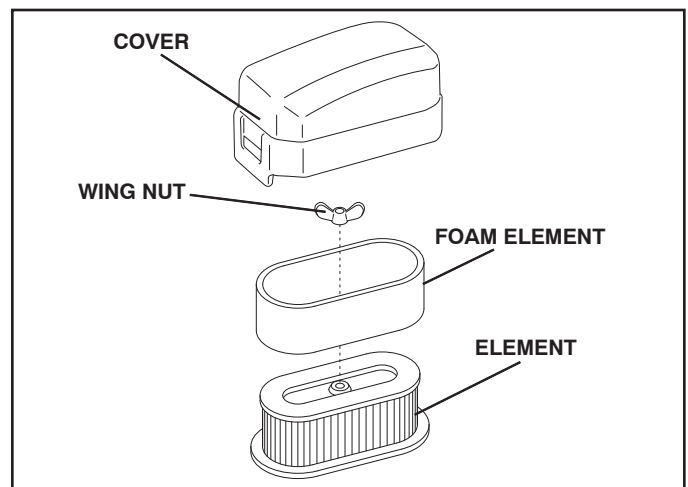

Fig. 13
- Urethane Foam cleaning (See Fig.13)
- Second element (See Fig.13)